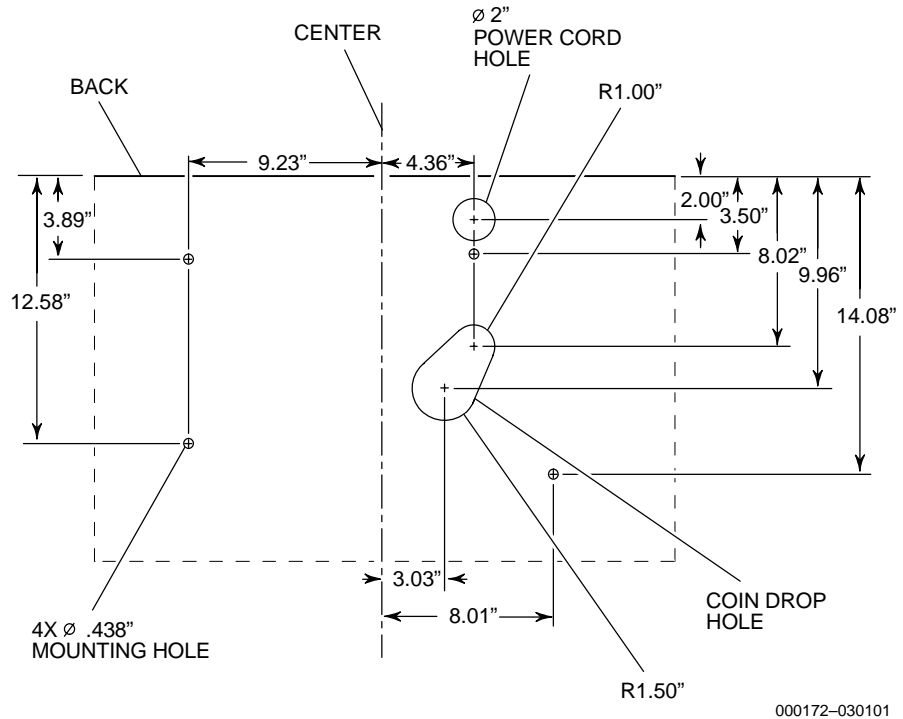

Figure 2-4. Base Dimensions – S-Plus Wide Body with Imbedded Bill Acceptor
- Base Dimensions – Figures 2-4, 2-5 and 2-6